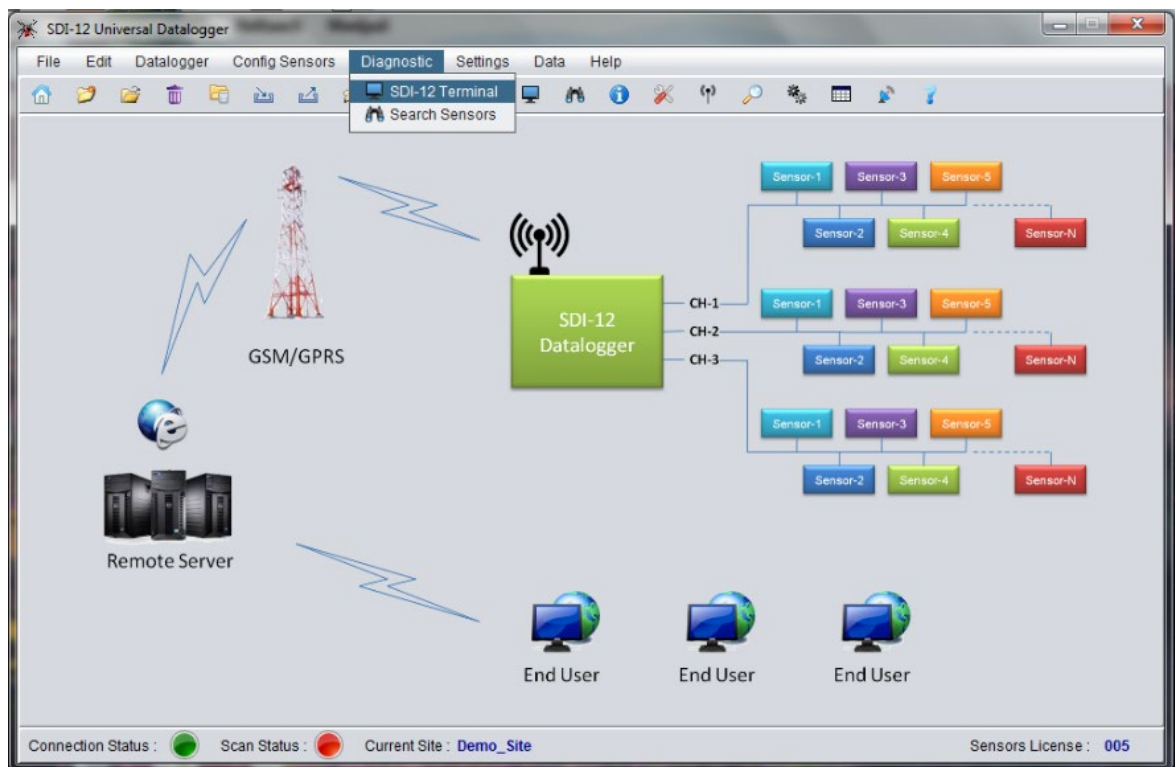

Figure 7-8 Assigning ID to SDI-12 sensor
- 7 Connect a single sensor to any Channel of the Datalogger physically. Click “Diagnostic” followed by “SDI-12 Terminal” to set the ID of the sensor as shown in figure 7-8 below.